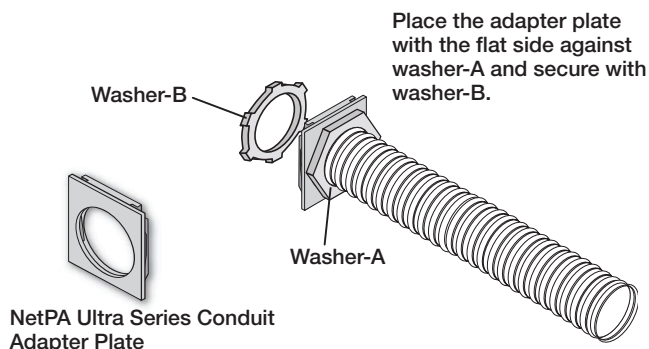

Figure 10. Secure NetPA Ultra Series Adapter Plate to Conduit
- Place the adapter plate that ships with the conduit kit on the conduit, with the flat side of the plate facing the hexagonal nut (washer-A), and secure the new plate to conduit with the washer that was removed back in step 6 (washer-B) (see figure 10).